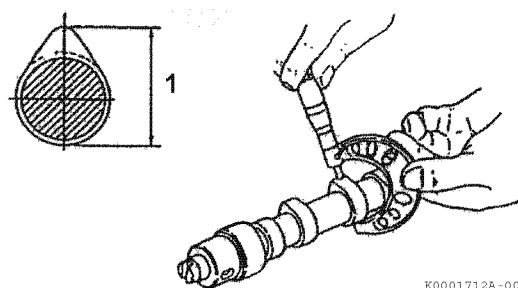

Figure 6-75
3. Measure the height of each lobe (**Figure 6-75, (1)**). Record the measurements. See *Camshaft* on page 6-5 for specifications.